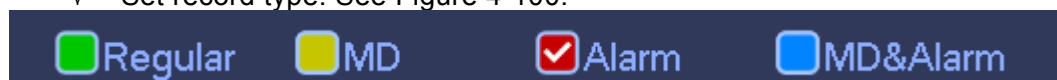

Figure 4-100
- ✧ Set record type. See Figure 4-100.